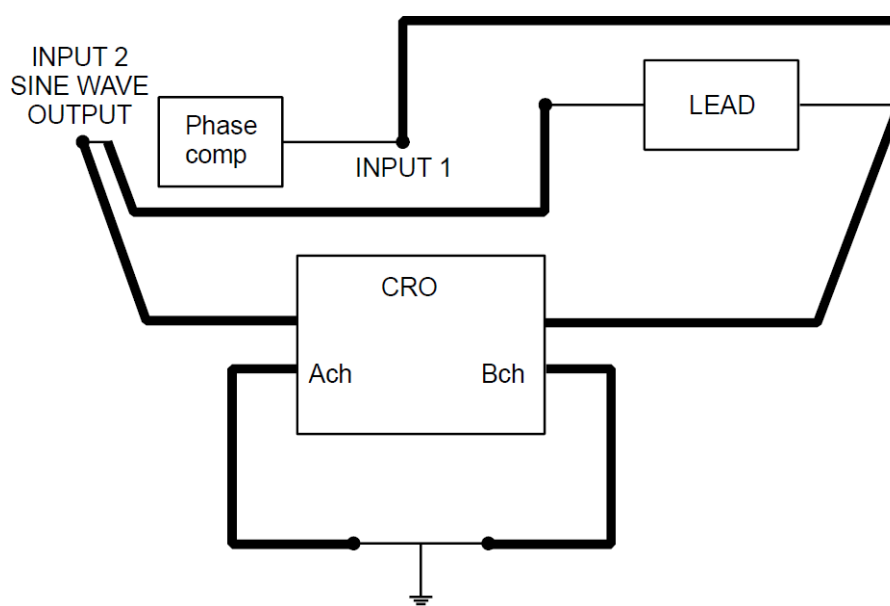

Fig. 3 Open loop response of Lead compensator.
- 5.1 Connect the system as shown in fig. 3. Measure sine wave signal ofVpp at the input of the compensator with connecting CRO channels at input / output.